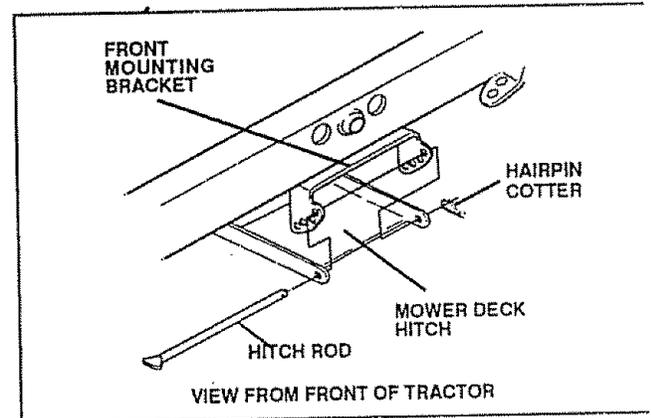

FIG. 20
- Remove hairpin cotter from mower deck hitch and remove deck hitch rod from top holes of the front mounting bracket (see Fig. 20).
- Remove hitch rod and hairpin cotter from front mounting bracket and lay aside (see Fig. 20).